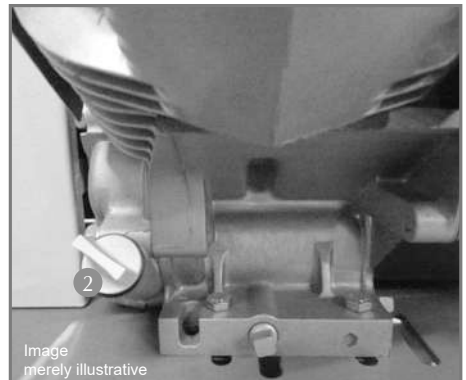

Figure 11
- ✓ When oil has been fully drained, screw back oil container (1).
- ✓ As shown in Figure 11, remove the dipstick (2) and fill the crankcase with the oil. When completed, close it again, according to the amount indicated in the engine manual.
- ✓ Check the level of oil with indicating rod (2), according to Figure 11. For better reading, firmly hold cover on tube before removing the rod. Keep oil at rod "Full" level.